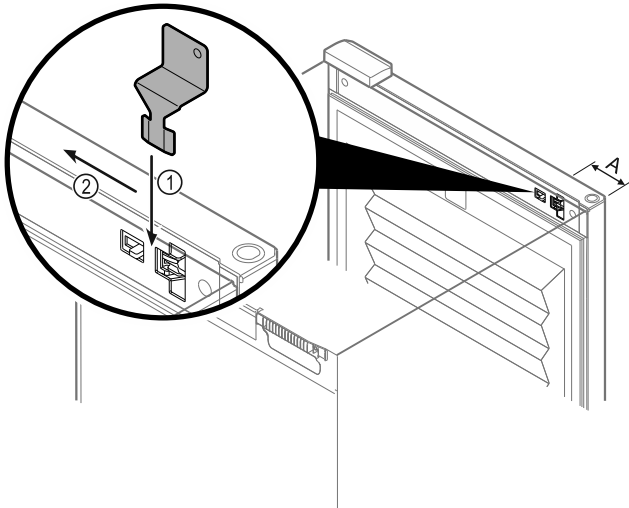

Fig. 146
- ▶ Position the emergency unlocking key in the location shown Fig. 146 (A) \approx 100mm.
- ▶ Insert the emergency unlocking key from above between the door and the appliance body as far as it will go Fig. 146 (1).
- ▶ Drag the emergency unlocking key towards the hinge side Fig. 146 (2).